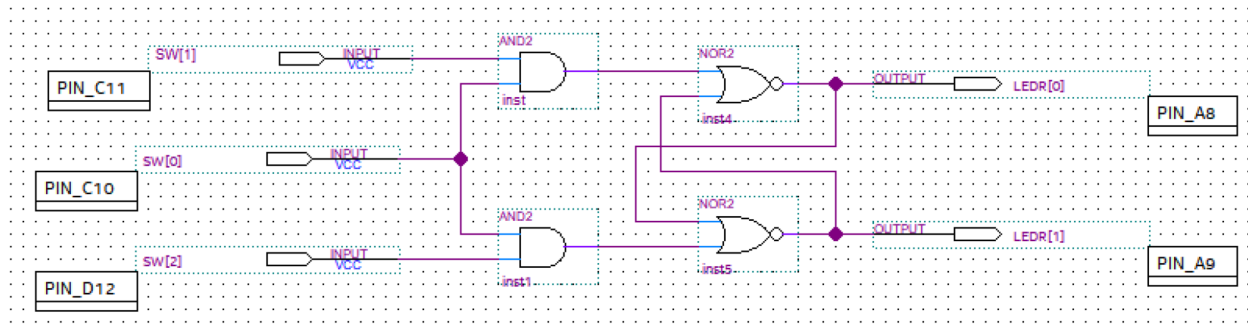

Figure 1: Gated RS Latch Circuit
- Analyze the provided schematic and compile the circuit in Quartus as seen in *Figure 1*.